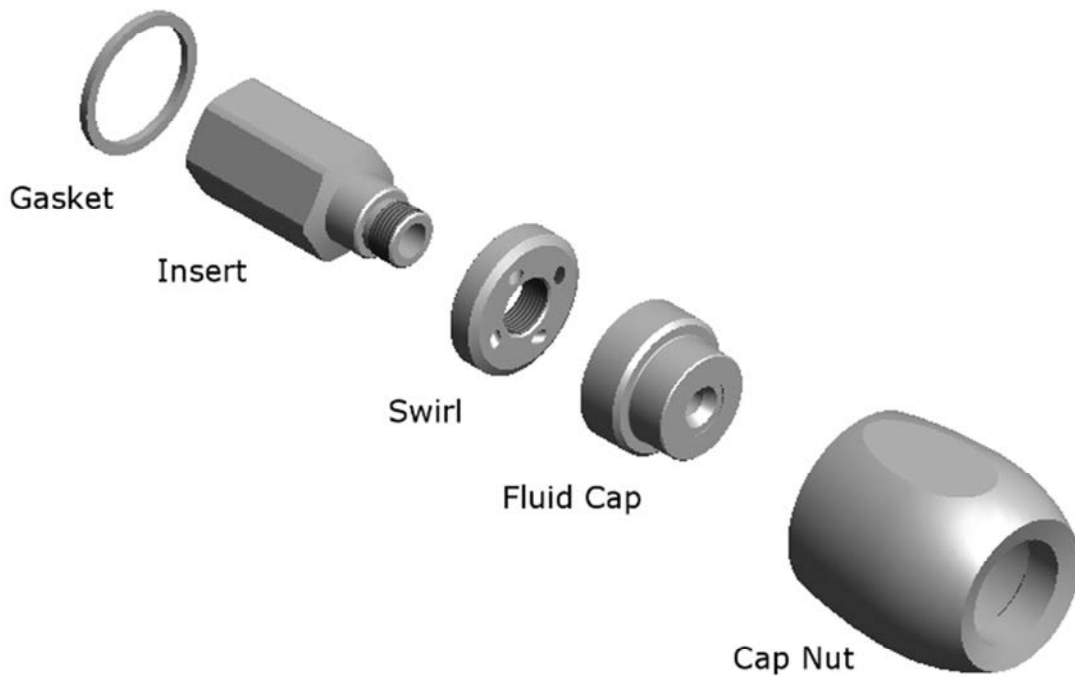

Figure 2: Exploded View $\frac{3}{4}$ " and 1" Nozzle Assembly
- Figure 2: Exploded View ¾" and 1" Nozzle Assembly 6
- **Fluid Cap:** The fluid cap provides the injection spray into the system. (See Figure 2 & 3)
- **Swirl:** The swirl imparts a tangential velocity on the full flow from the pump into the fluid cap. (See Figure 2)
- **Insert:** The insert is an adapter with a fixed orifice to connect the inner pipe to the swirl. (See Figure 2)
- **Gasket:** The gasket creates a seal between the outer lance pipe and swirl. (See Figure 2 & 3)